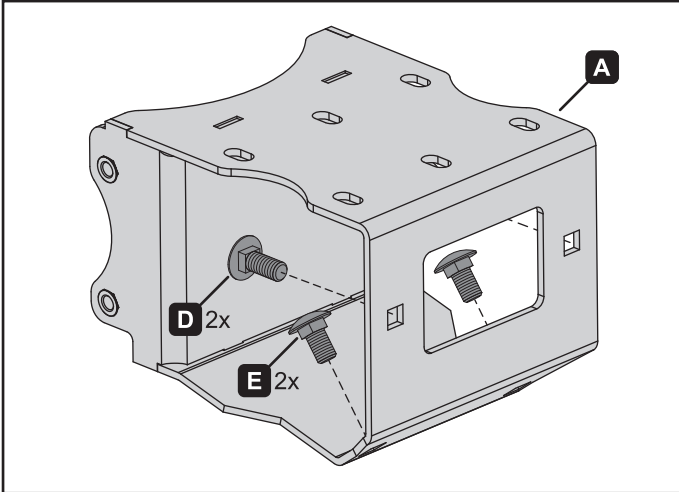

Figure 1.
1. Place bolts (D) and (E) into the winch mount (A). See figure 1.